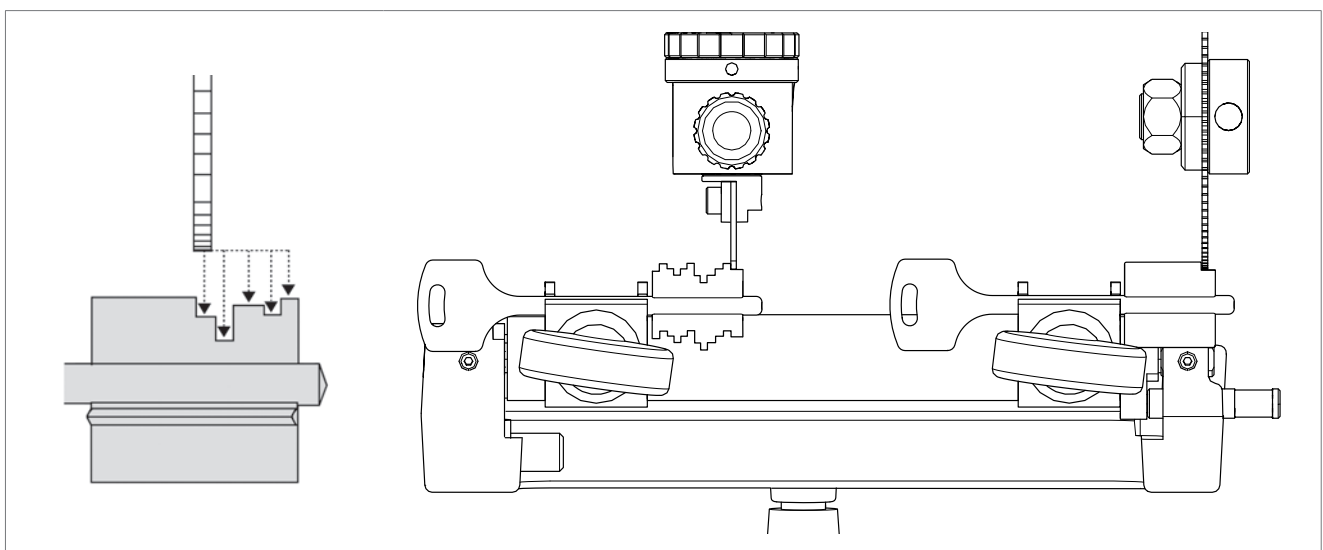

Fig. 30
- 6) Cut the key (Fig. 30); if necessary, round off the cuts using the clamp tilting mechanism (chap. 5.1.2).
- 7) Move the carriage with lever (A) to take the original key cuts into contact with the tracer point.
- 9) When cutting is finished, turn off the switch (K) and remove the keys.